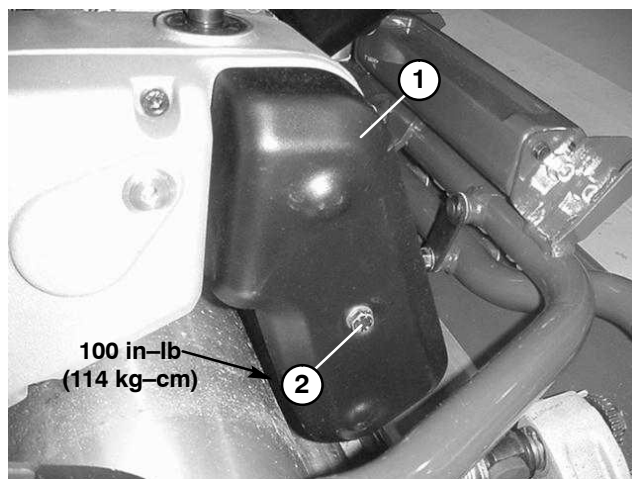
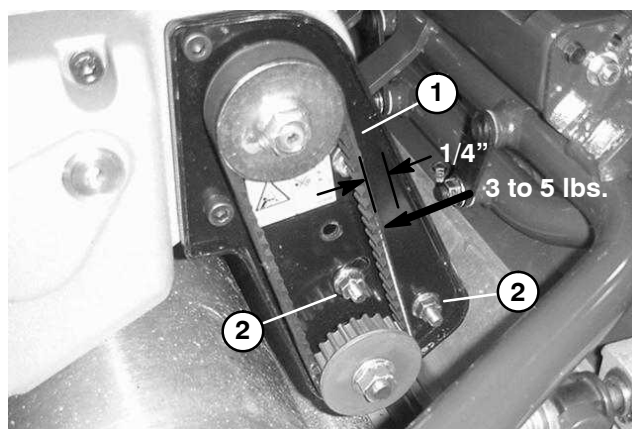
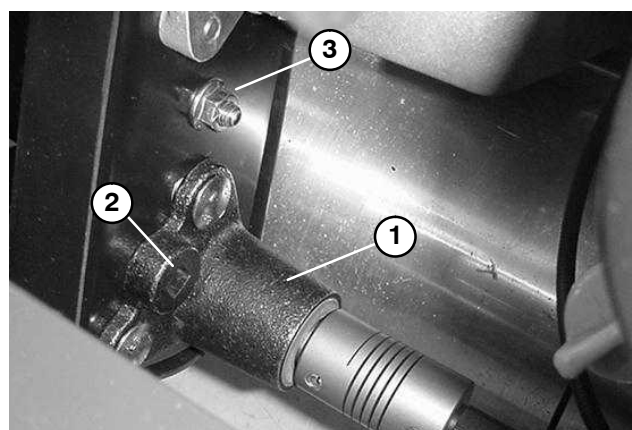

Figure 11
Figure 12
Figure 13
A. Remove cap screw, flat washer, belt cover (Fig. 11), spacer (under cover), and flange nut (Fig. 13) to expose drive belt.
B. Check belt tension by depressing belt at mid span between the pulleys with 3 to 5 lbs (13 to 22 N) of force (Fig. 12). The belt should deflect 1/4 inch (6 mm).
A. Loosen the two bearing housing mounting nuts (Fig. 12).
B. With a 3/8 in. drive torque wrench, pivot the bearing housing from 35 to 40 in-lb (40 to 46 kg-cm) to set belt tension (Fig. 13). **Do not over tension belt.** Hold bearing housing with the torque wrench and tighten bearing housing mounting nuts to lock adjustment (Fig. 12).